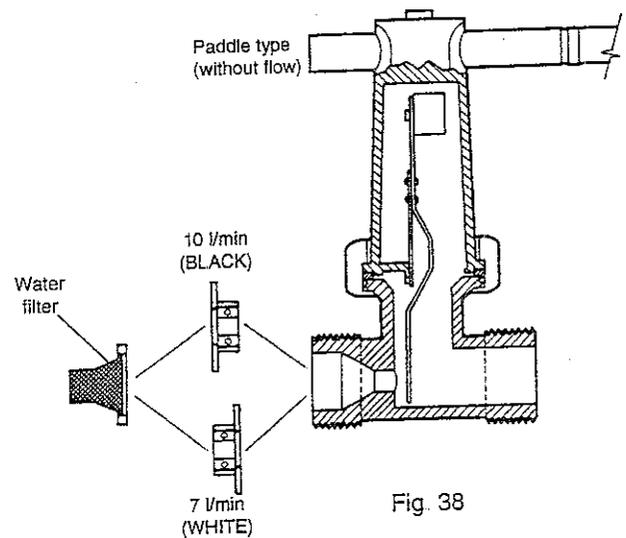

Fig. 38
- d) Re-assemble in reverse order, ensuring that the filter, flow restrictor and sealing washers are in the correct position (fig. 38). The polarity for the electrical wiring is immaterial